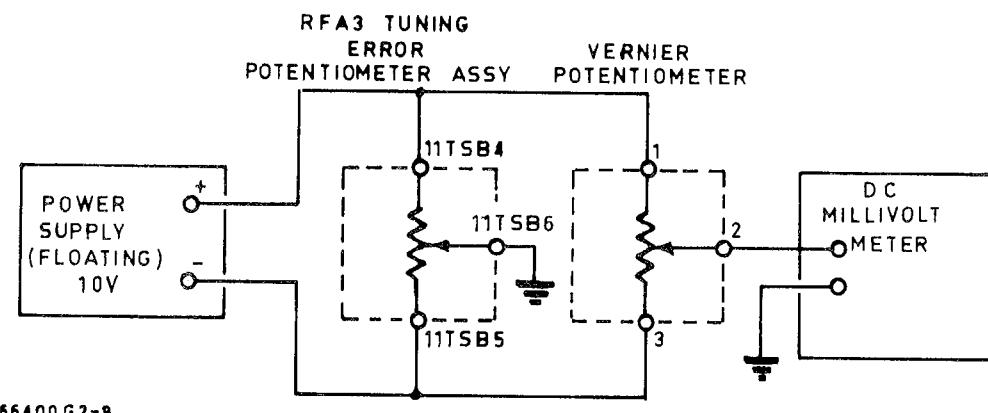

Figure 7
9. Connect the tracking test set-up as shown in Figure 7 below.